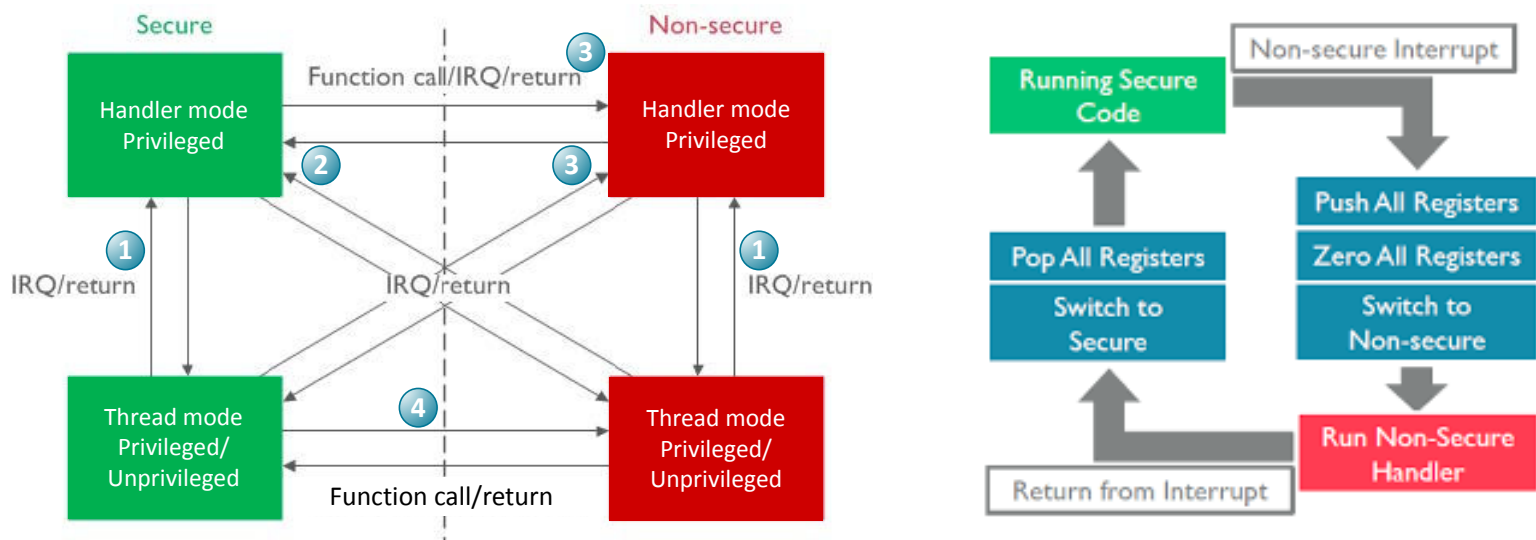

Figure 2.6. State Transitions
- To avoid an information leak when transitioning from the Secure to Non-secure state. The processor automatically pushes all general-purpose registers into the Secure stack and erases the contents of all general-purpose registers before executing the Non-secure ISR. The processor pops the contents of all general-purpose registers from the Secure stack when returning from the Non-secure ISR (right side in Figure 2.6 State Transitions on page 12). It incurs a slightly longer interrupt latency.